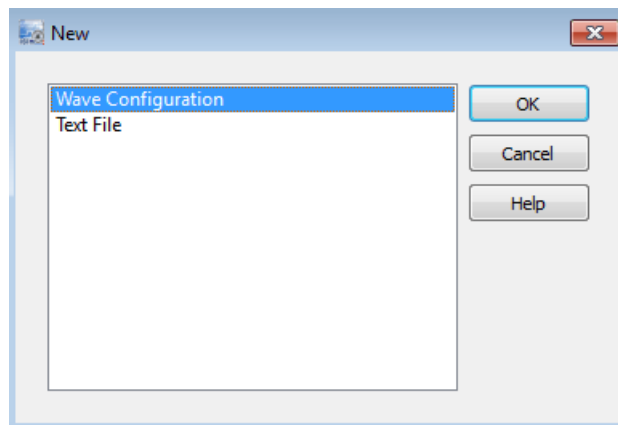

Figure 4-43: New Wave Configuration
2. In the New dialog box, select **Wave Configuration** and click **OK** (Figure 4-43).